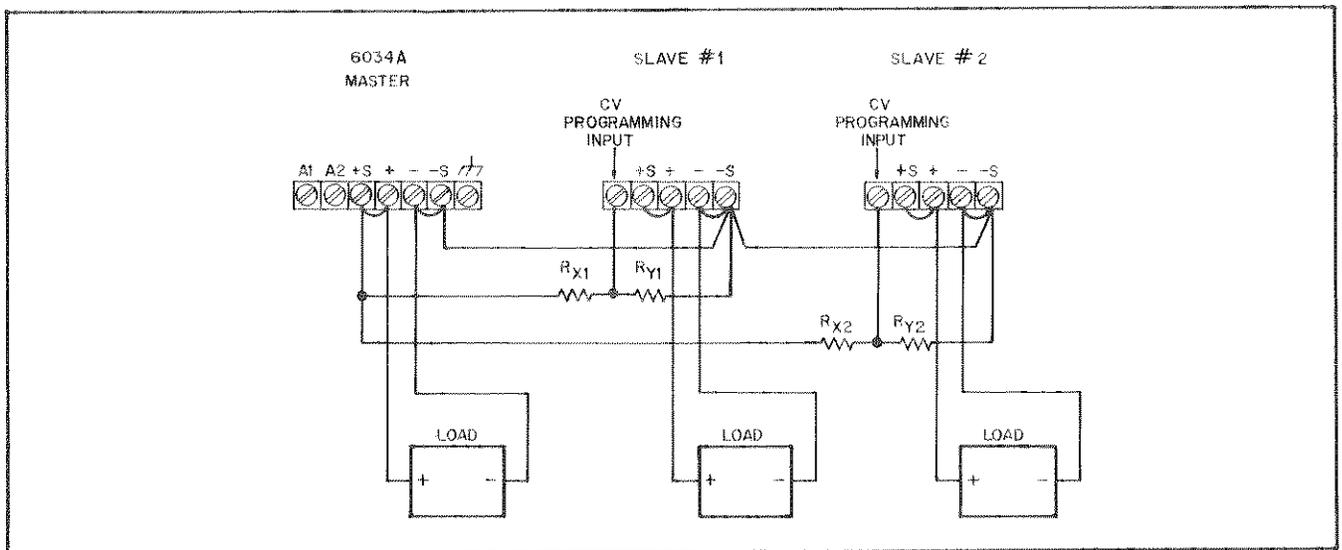

Figure 3-9. Auto-Tracking Operation
**3-53** Figure 3-9 shows the interconnections required to operate two or more units in auto-tracking mode with a 6034A as the master supply. This mode of operation allows multiple supplies that share a common output bus (negative or positive) to power separate loads and have their output voltages simultaneously programmed by the voltage and cur-
**3-55 Resistor Values.** The method for determining the values of  $R_X$  and  $R_Y$  in Figure 3-9 is similar to that given in Paragraph 3-45 for auto-series mode. First choose the ratio of the slave output voltage to the master output voltage, select a value for  $R_Y$ , and then determine the value for  $R_X$  by solving the equation: